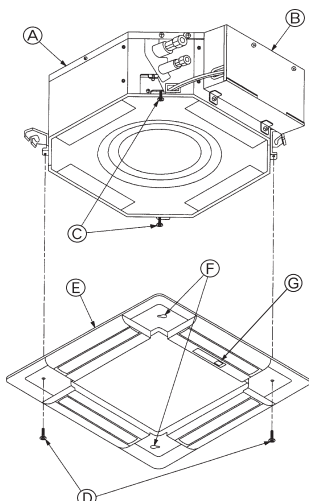

Fig. 5-6
5.3.2. Temporary installation of the grille (Fig. 5-6)